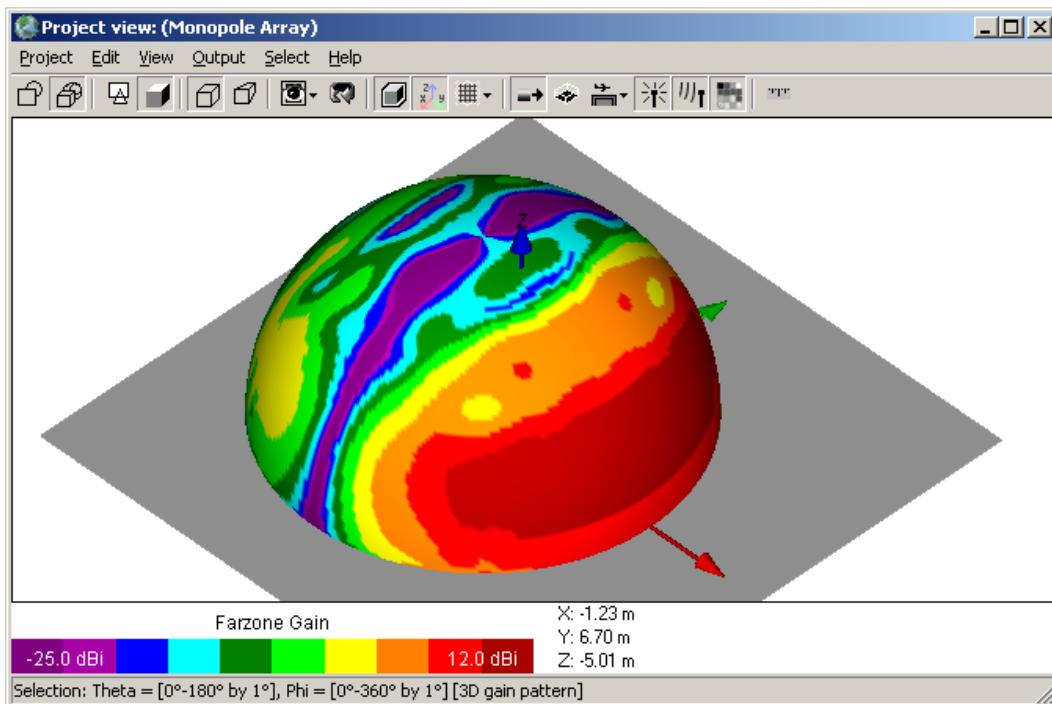

Figure 12.18: Antenna radiation pattern with no surface shaping
- *Render as sphere* - Displays the pattern as a colored sphere, as seen in Figure 12.18.
Figure 12.18 shows an alternative way of viewing the antenna pattern. In this representation, the color is just applied to the surface of sphere and there is no shaping of the surface as in the previous figure. The pattern on the lower half of the sphere is not visible in this figure.